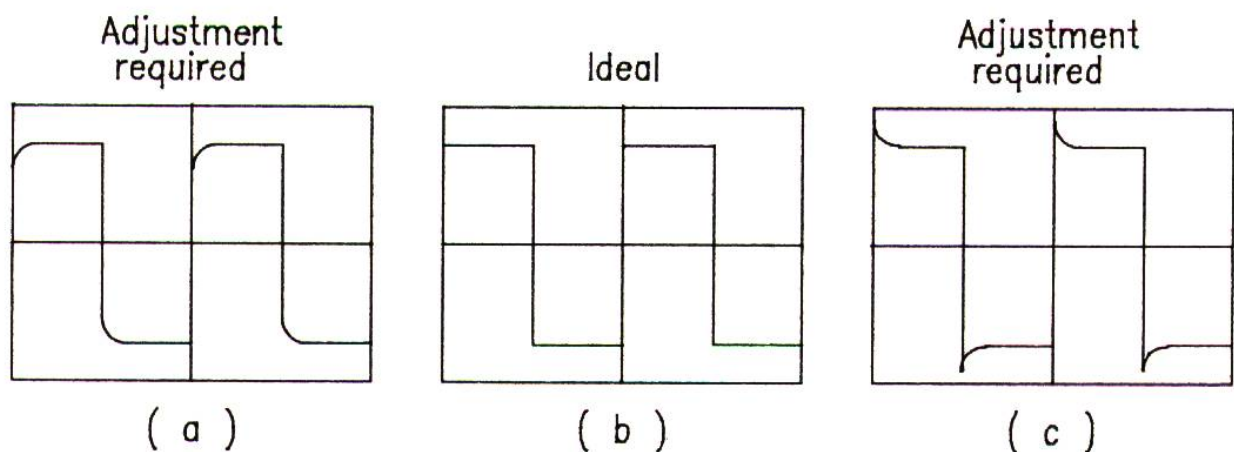

Fig. 9
- Adjust VC1 to make the displayed waveform become as Fig. 9(b).
- Adjust VC2 to make the displayed waveform become as Fig. 9(b).